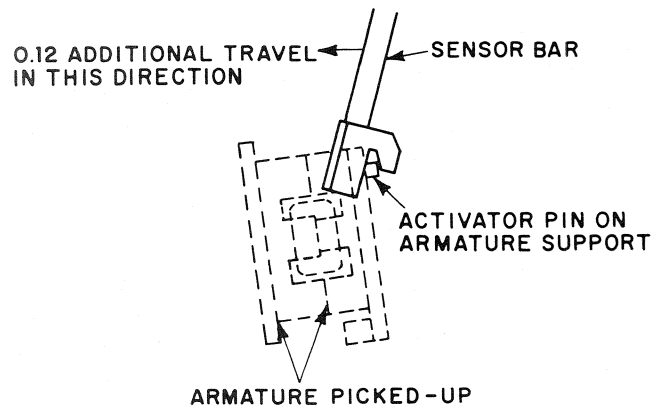

Fig. 40. Activator pin engaged in sensor bar with contactor energized
3. To assure “Free-closing” of armature in connection with sensor bar, a minimum of 0.12 inch of additional travel of sensor bar should exist when armature is fully picked up (see Fig. 40).